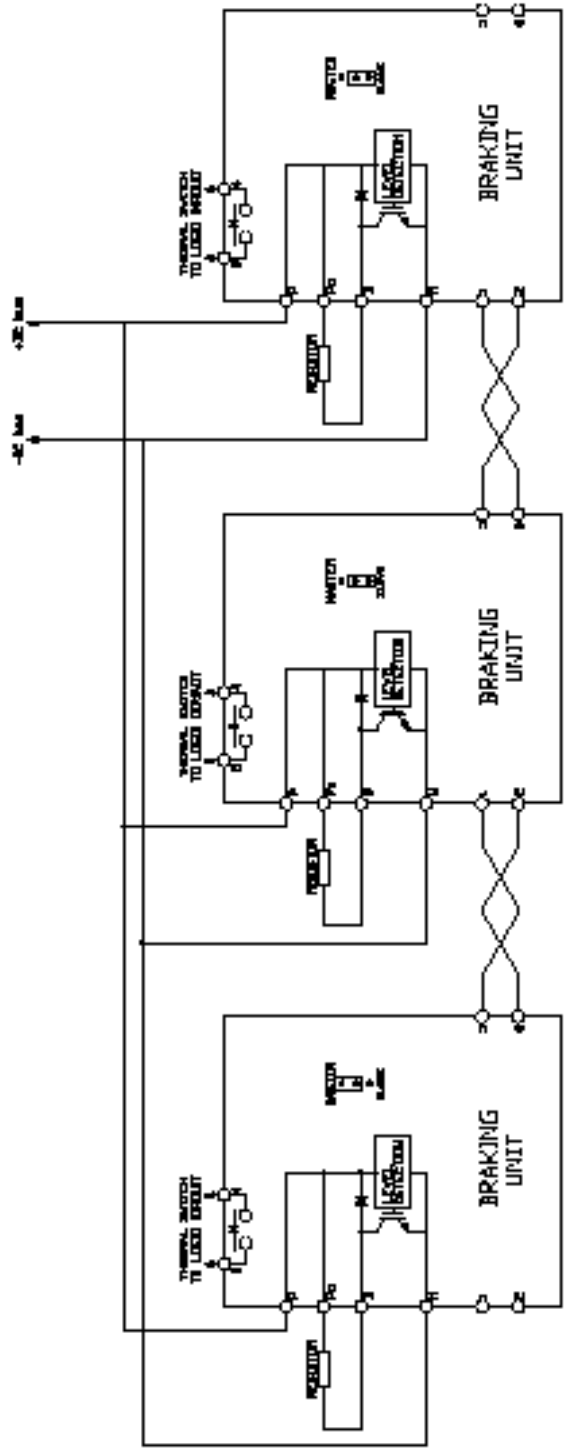

Figure 3-5: CDBR Parallel connection of Braking Unit
7. Terminals 1, 2, 5 and 6 are used for **MASTER/SLAVE** Operation. Use twisted-pair wires of 14 AWG or smaller for connection between 5, 6, and 1, 2 on the braking units. Parallel connection is possible up to a maximum of 10 units. Refer to Figure 3-5 on page 3-11 for parallel connection of braking units.